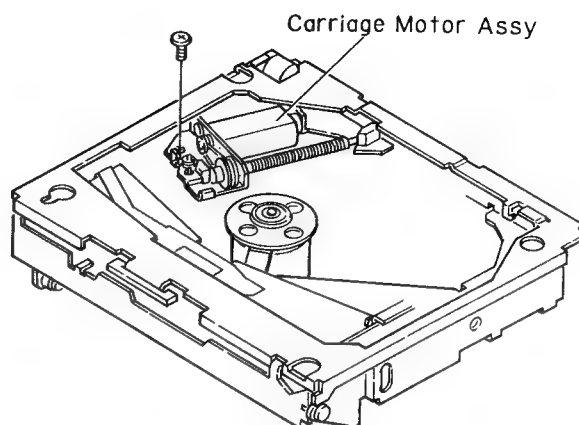

Fig. 12
11. Remove the screw, and then remove the carriage motor assy. (Fig.12)